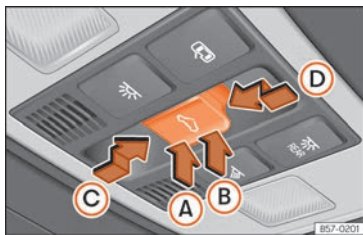

Fig. 66 On the interior roof lining: sunroof button.
The  **Fig. 66** button has two levels. The first level switches the sunroof to the tilted position, opening or closing it fully or partially.
- Within approximately 5 seconds of having activated the roll-back function, press the <> >>> Fig. 66 button to the second level in the direction of arrow Ⓐ until the sunroof closes completely.